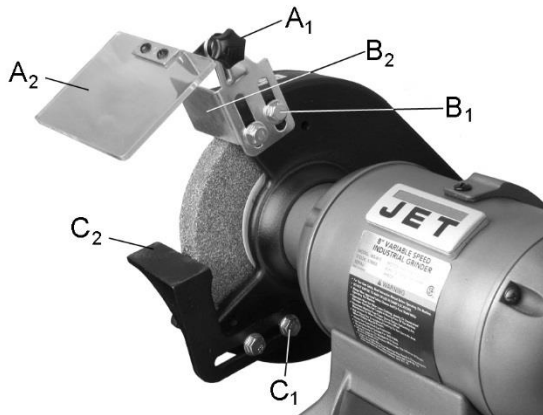

Figure 8-1: eye shield adjustment
- Loosen lock knob (A1, Figure 8-1).
Refer to Figure 8-1.